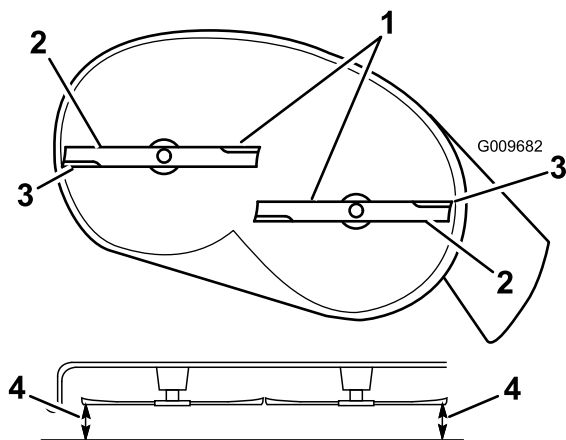
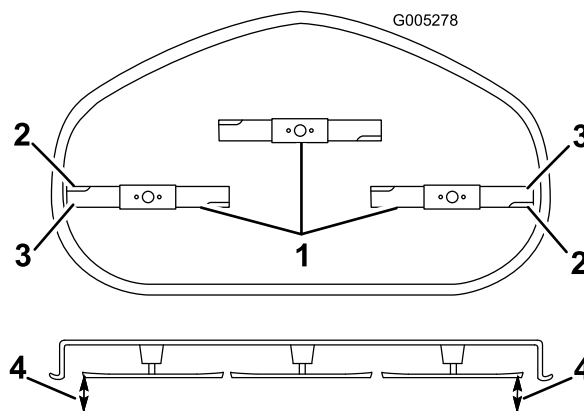

Figure 60
Figure 61
4. Carefully rotate the blade(s) so that they are all side to side (Figure 60 and Figure 61).
5. Measure between the outside cutting edges and the flat surface (Figure 60 and Figure 61). If both measurements are not within 5 mm (3/16 inch), an adjustment is required; continue with this procedure.